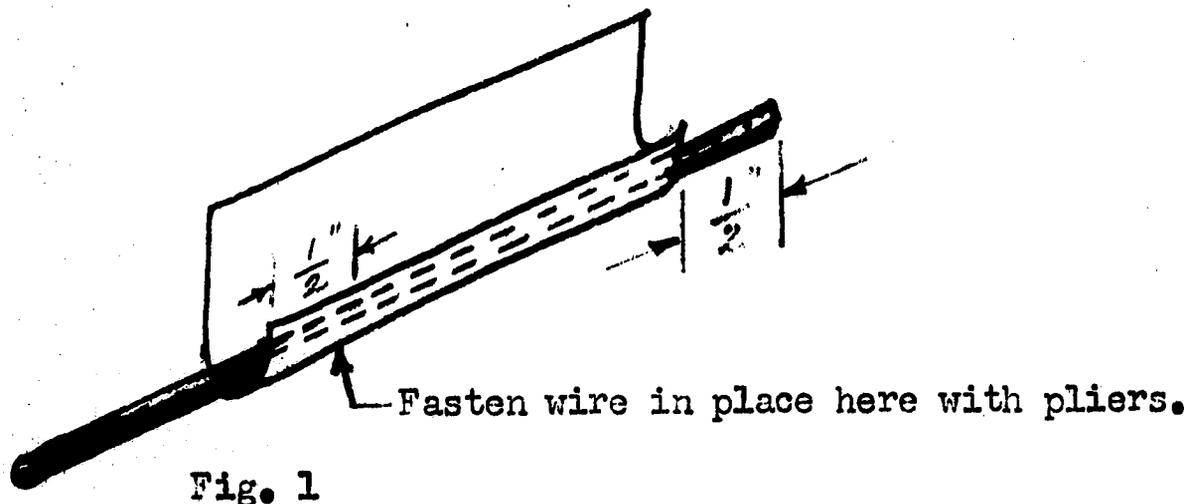

Fig. 1
8. Place the wire in the edge, with one end sticking out about $\frac{1}{2}$ inch. Then, with pliers, squeeze the edge for a distance of about $\frac{1}{2}$ inch to fasten the wire in place. See Fig. 1.